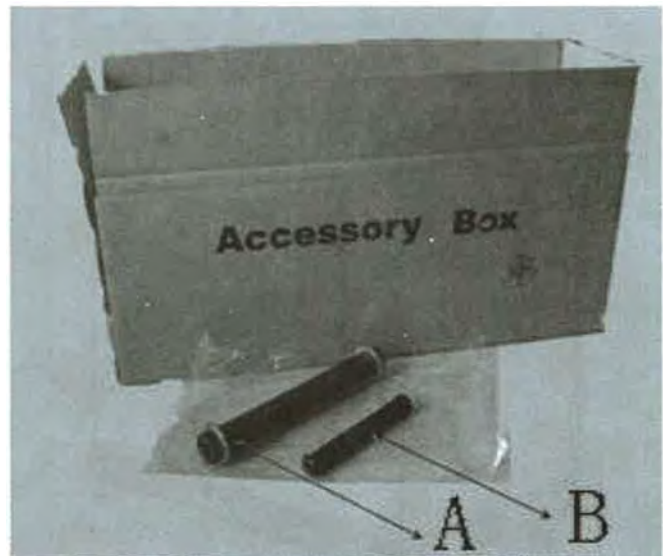
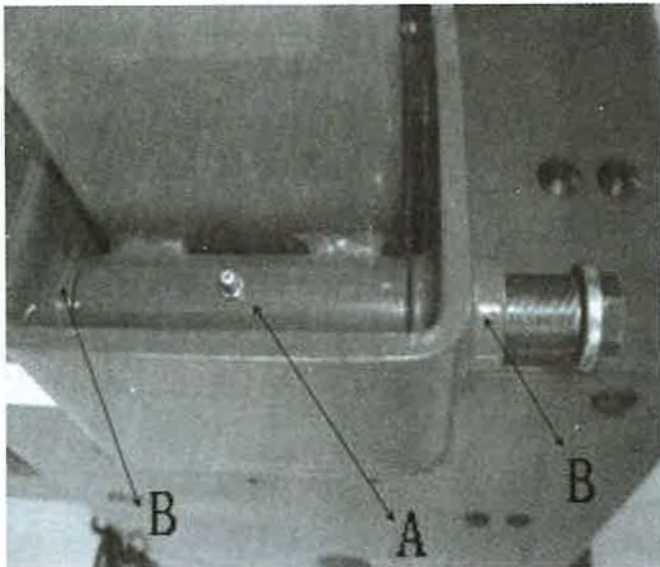

Fig 4-1
Fig4-3
4.2.7 Lift up the column and insert the PU hose (Fig4-3 A) at the bottom into the open at the top of the body of the machine (Fig4-3 B) . Adjust the position of the column to align the rotation shaft bushing (Fig4-4 A) with the hole of the rotation shaft base (Fig4-4 B). Take the nut and washer at one end of the rotation shaft assembly (Fig4-1 A) , making the termination of the shaft about 1mm lower than the base frame. Retighten the washer and nut. The tighten torque is 70N·m.
4.2.9 Position the $\Phi 16$ hole (Fig4-6 A) in front of and below the column at the position of the semi-cycle hole (Fig4-6 B) on the upper seat. Detach the retaining washer on the one side of the push-out shaft (Fig4-1 B) and insert into the corresponding holes of the shaft (Fig4-6E) and cylinder piston rod Fig4-6 D) through the $\Phi 16$ hole and out of from the hole of the other side and then assemble the elastic retaining washer.